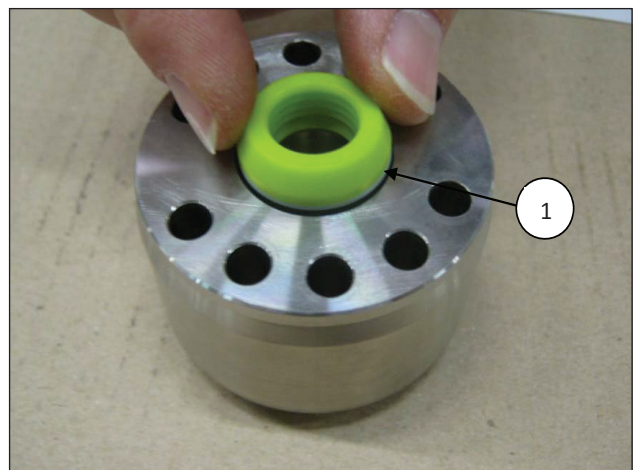
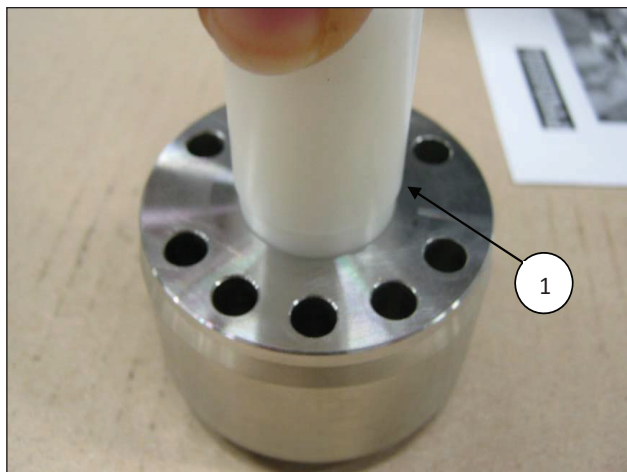

Fig. 39
Fig. 40
- Introduce in the H.P. seals support, the head ring (pos. ①, Fig. 38) and then the H.P. (high pressure) packing; considering the slight interference between the seal and the H.P. seals support, to avoid damage we advise using a plastic pad (pos. ①, Fig. 39 and Fig. 40).
The H.P. seal must be placed in the support as indicated in Fig. 39 and Fig. 41.